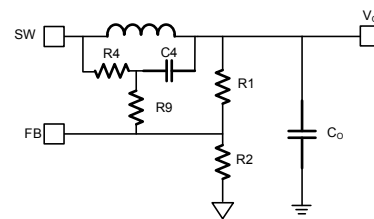

Figure 7: Simplified Circuit with External Ramp
The output voltage is influenced by R4, in addition to the R1 and R2 divider (see Figure 7). If R2 has a low resistance, it may lead to considerable quiescent current loss. If R2 has a high resistance, it makes FB noise-sensitive. Set R2 between 5kΩ and 100kΩ. Use a higher-value R2 when V_{OUT} is low and a lower-value R2 when V_{OUT} is high. R1 can then be calculated with Equation (4):